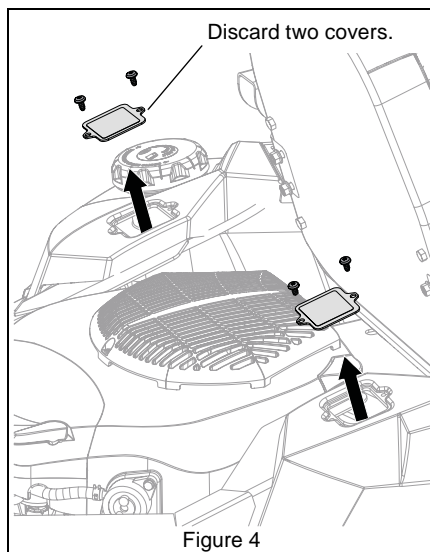

Figure 4
3. Remove four screws retaining pocket covers and remove covers. Discard covers; reinstall screws for better appearance. See Figure 4.